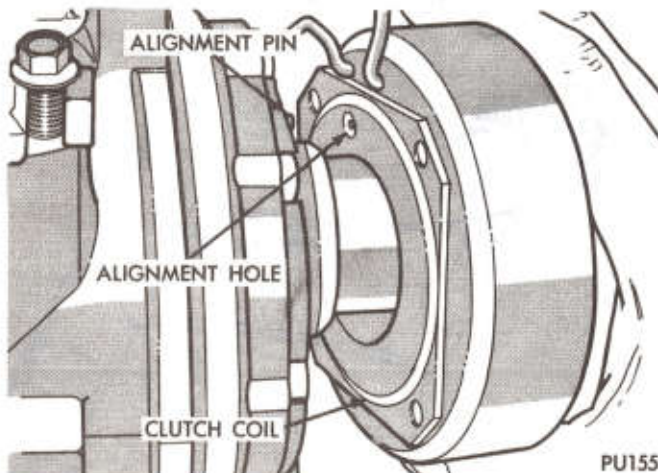

Fig. 6—Installing Clutch Coil, C-171 Compressor
- (1) Align hole in back of field coil with pin in compressor end housing and position field coil into place (Fig. 6). Make sure that lead wires are properly routed and fasten with the ground wire retaining screw.
- (2) Install field coil retaining snap ring (bevel side outward), with snap ring pliers, Tool C-4574. With a